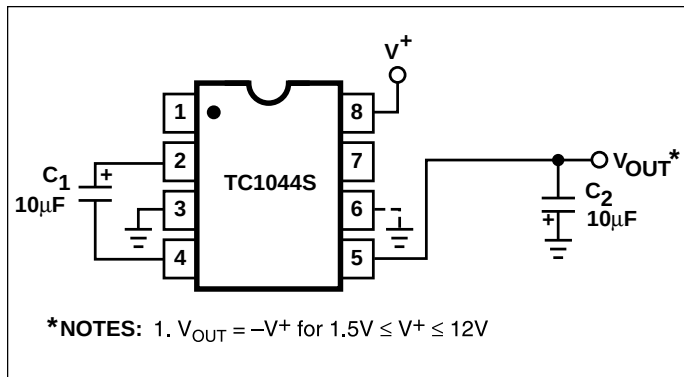
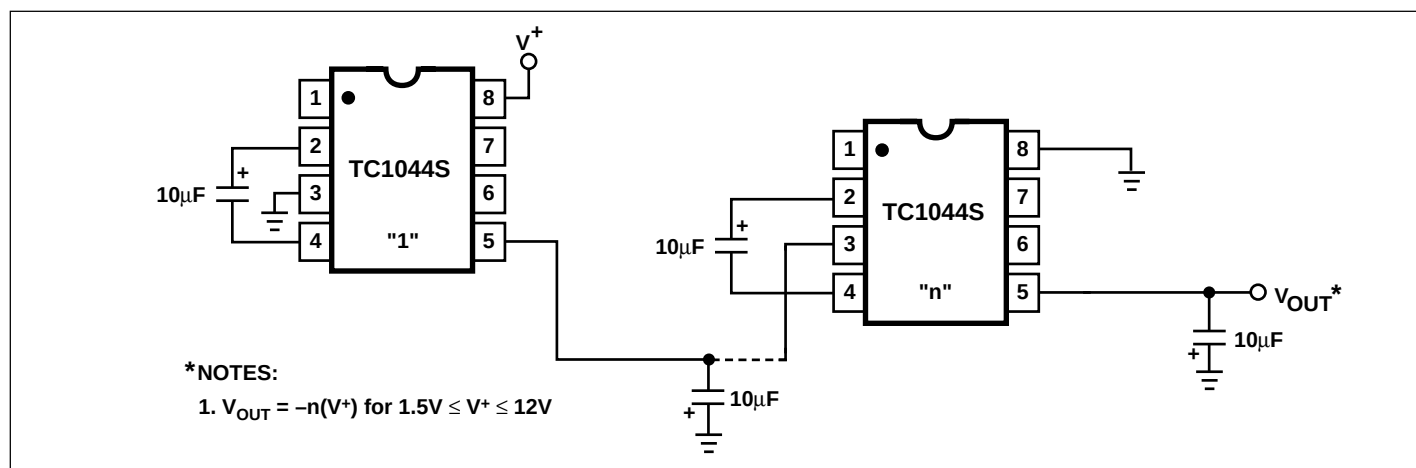
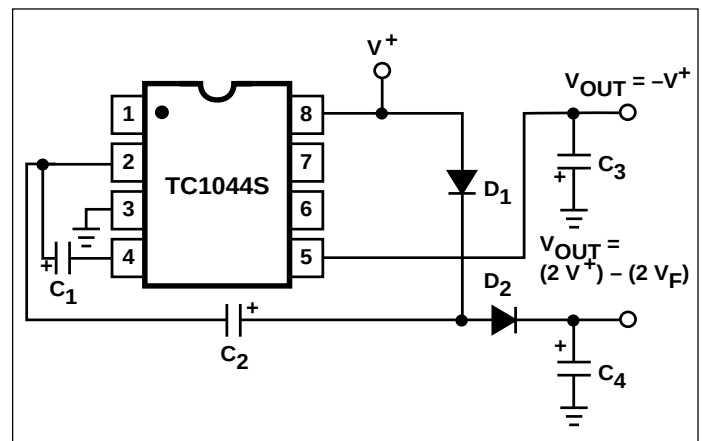
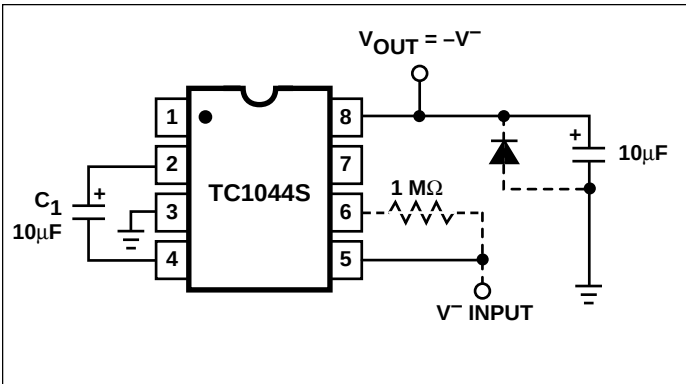

Figure 3. Simple Negative Converter
Figure 5. Increased Output Voltage by Cascading Devices
Figure 9. Combined Negative Converter and Positive Multiplier
Figure 10. Positive Voltage Conversion
Figure 3 shows typical connections to provide a negative supply where a positive supply is available. A similar scheme may be employed for supply voltages anywhere in the operating range of +1.5V to +12V, keeping in mind that pin 6 (LV) is tied to the supply negative (GND) only for supply voltages below 3.5V.
The output characteristics of the circuit in Figure 3 are those of a nearly ideal voltage source in series with 70Ω . Thus, for a load current of -10mA and a supply voltage of +5V, the output voltage would be -4.3V .
The TC1044S may be cascaded as shown (Figure 5) to produce larger negative multiplication of the initial supply voltage. However, due to the finite efficiency of each device, the practical limit is 10 devices for light loads. The output voltage is defined by:
Figure 9 combines the functions shown in Figures 3 and 8 to provide negative voltage conversion and positive voltage multiplication simultaneously. This approach would be, for example, suitable for generating +9V and -5V from an existing +5V supply. In this instance, capacitors C_1 and C_3 perform the pump and reservoir functions, respectively, for the generation of the negative voltage, while capacitors C_2 and C_4 are pump and reservoir, respectively, for the multiplied positive voltage. There is a penalty in this configuration which combines both functions, however, in that the source impedances of the generated supplies will be somewhat higher due to the finite impedance of the common charge pump driver at pin 2 of the device.
Since the switches that allow the charge pumping operation are bidirectional, the charge transfer can be performed backwards as easily as forwards. Figure 10 shows a TC1044S transforming -5V to +5V (or +5V to +10V, etc.). The only problem here is that the internal clock and switch-drive section will not operate until some positive voltage has been generated. An initial inefficient pump, as shown in Figure 9, could be used to start this circuit up, after which it
will bypass the other (D_1 and D_2 in Figure 9 would never turn on), or else the diode and resistor shown dotted in Figure 10 can be used to "force" the internal regulator on.
The same bidirectional characteristics used in Figure 10 can also be used to split a higher supply in half, as shown in Figure 11. The combined load will be evenly shared between the two sides. Once again, a high value resistor to the LV pin ensures start-up. Because the switches share the load in parallel, the output impedance is much lower than in the standard circuits, and higher currents can be drawn from the device. By using this circuit, and then the circuit of Figure 5, +15V can be converted (via +7.5V and -7.5V) to a nominal -15V, though with rather high series resistance ($\sim 250\Omega$).